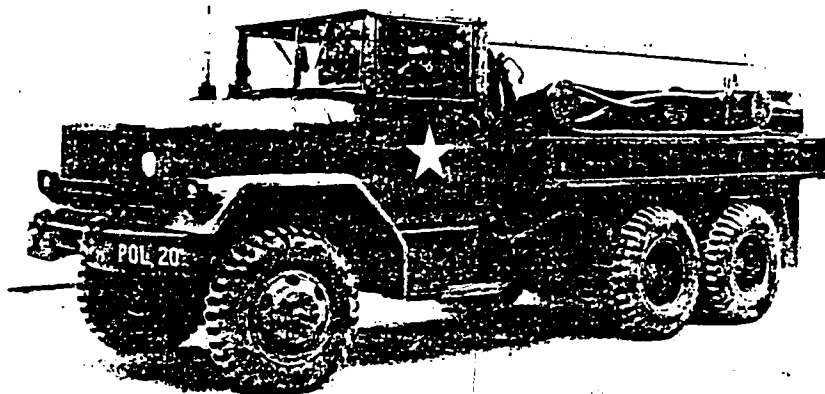

Figure 7-4.
■ **Description.** The M49A2C tank truck (figs 7-4 and 7-5) is mounted on a modified M45A2 chassis. The truck has a multifuel engine with single front and dual rear tires. It is about 23 feet long, 8 feet wide, and 7 2/3 feet